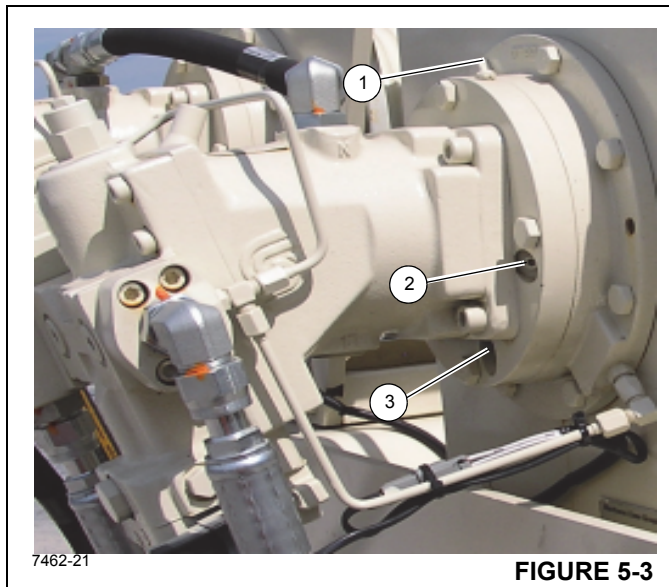

FIGURE 5-3
To check the hoist brake oil, remove the inspection plug (2, Figure 5-3) and visually inspect the oil level. The fluid should be level with the bottom of the inspection hole. If more fluid is needed, add through the brake oil vent and fill plug hole until oil is at the bottom level of the inspection hole (1).
To drain and add new oil, remove the drain plug (3, Figure 5-3), inspection plug (2) and vent plug (1) and drain the hydraulic oil. Reinstall drain plug (3) and add fluid at the inspection hole (2), until oil is at the bottom level of the inspection hole. Install the inspection plug and the oil vent (1) and the inspection plug (2). See *Lubrication*, page 5-3. The hoist brake fill capacity is 0.23 liter (.25 quart).
The oil in the gearbox and brake sections is recommended to be changed after first 50 hours of operation and every 1000 hours or 6 months of usage. Gearbox oil is drained by removing the drain plug and vent (See *Figure 5-3*).